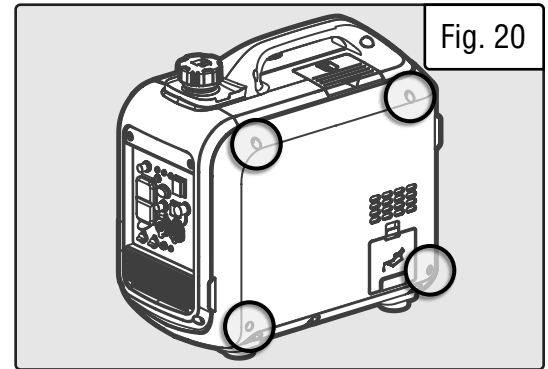

Fig. 20
3. Using a Phillips-head screwdriver, remove the four screws on the side panel as shown in Fig. 20.
1. Using a Phillips-head screwdriver, remove the four screws on the side panel as shown in Fig. 20.